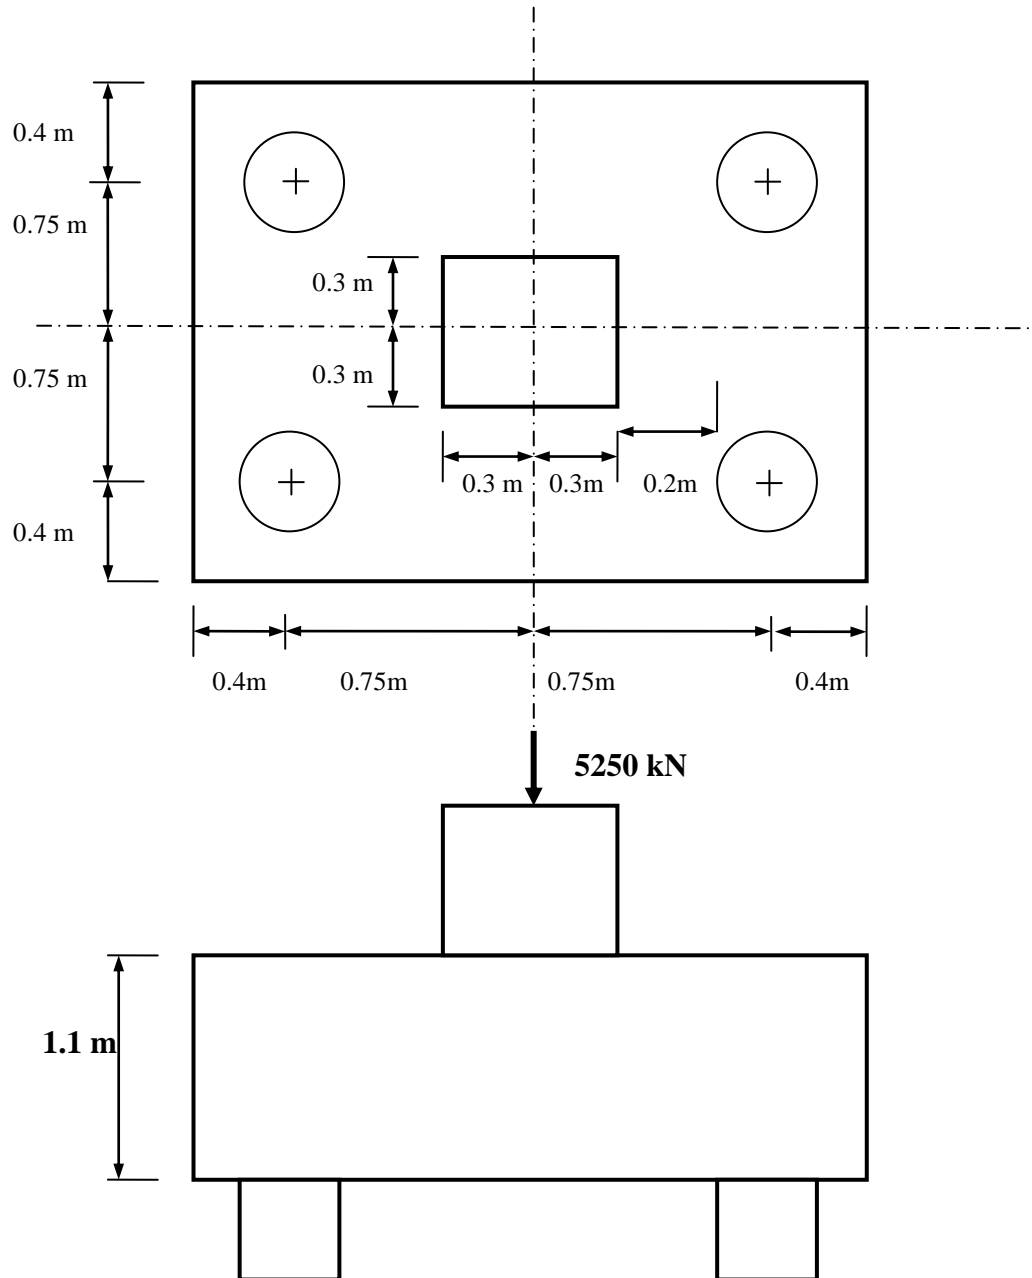

Figure 4.0 : Pile cap
3. (c) Design the four-pile cap shown in Fig. 4.0 if the characteristic strengths of the reinforcement and concrete are 460 N/mm^2 and 35 N/mm^2 respectively. The design load at the ultimate limit state is 540 ton.